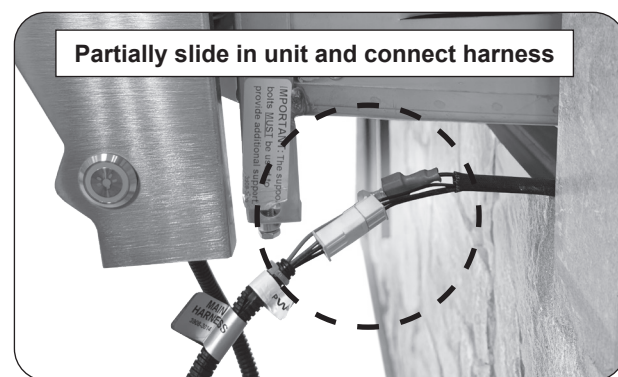

Fig. 27-3 Connect harnesses
3. **PARTIALLY** insert the unit into the enclosure cutout (slightly more than halfway). Then, connect the harness extension to the corresponding harness from the unit. See Fig. 27-3.